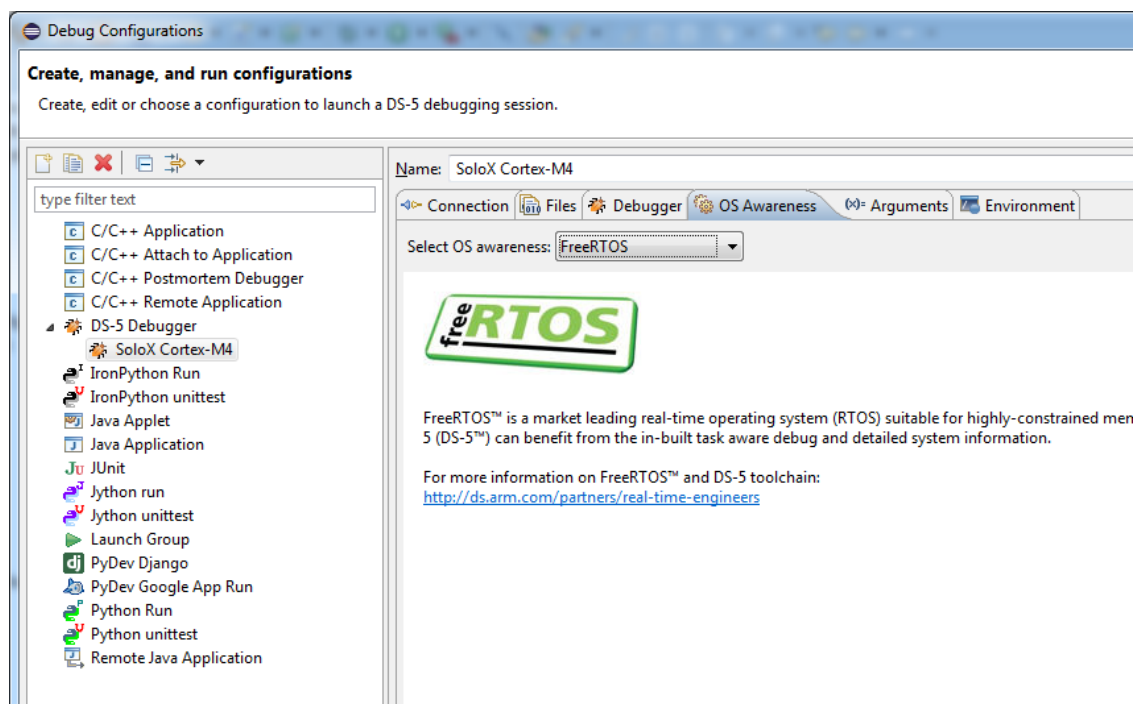

Figure 13 - OS Awareness
8. Go to the “OS Awareness” tab and choose FreeRTOS in the list as shown in Figure 13.